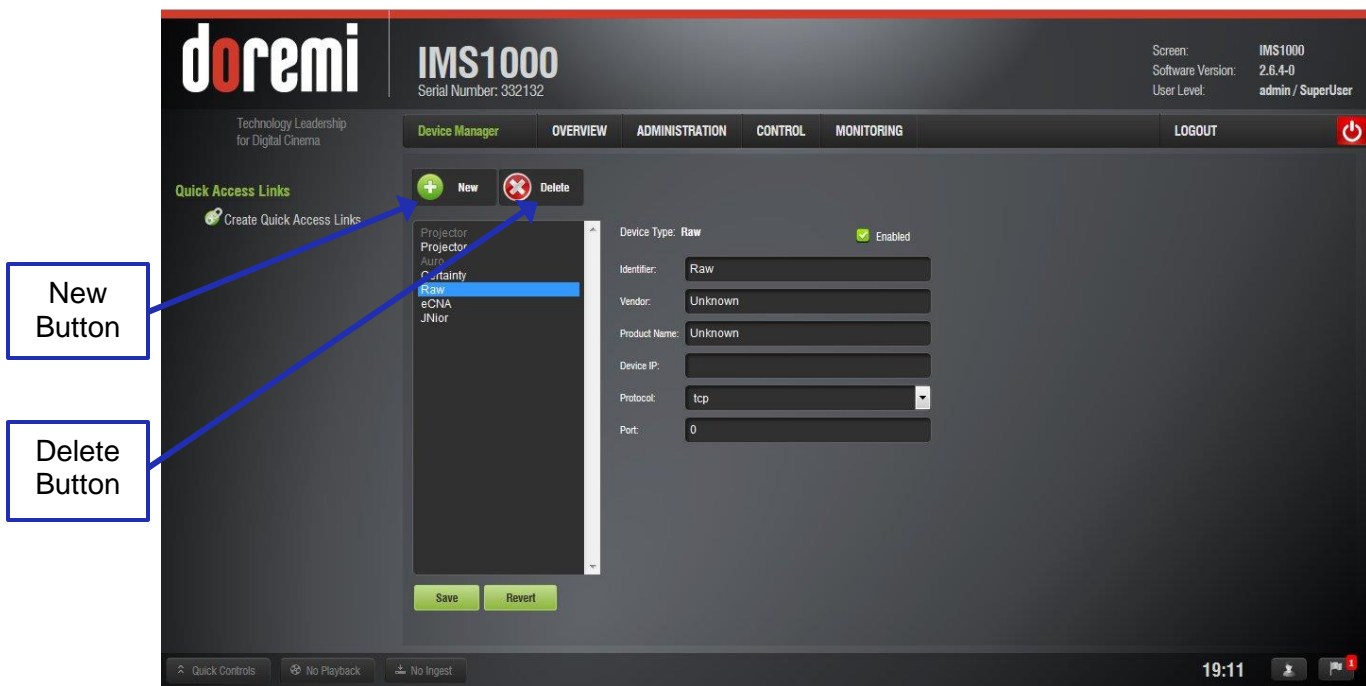

Figure 132: Device Manager GUI – Raw Device Configuration
- The New Device drop-down menu will appear. Select Raw (Figure 132).
- The Device Manager GUI will be updated to reflect the addition of the Raw device (Figure 132).
- To remove the Raw device, click on it in the Device Manager GUI and press the Delete button (Figure 132).
- Click the New Device button (Figure 132).